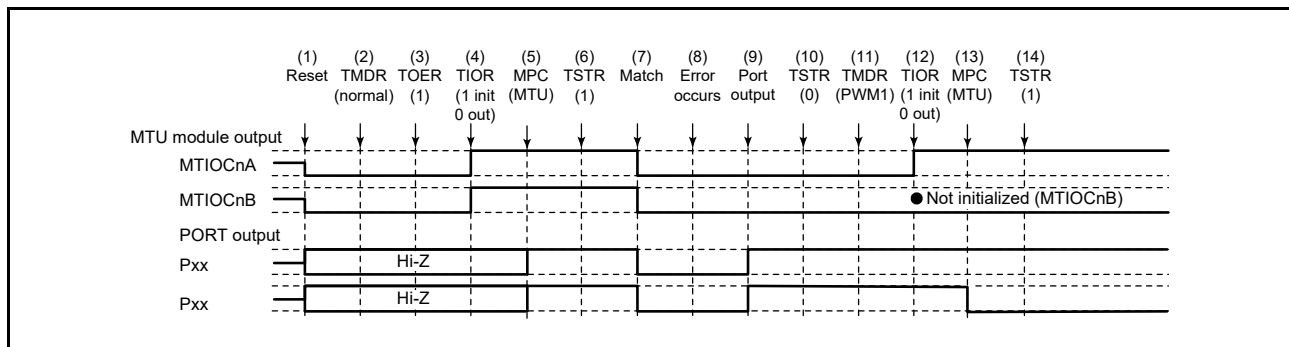

**Figure 24.154 Error Occurrence in Normal Mode, Recovery in Normal Mode**
Figure 24.154 shows a case in which an error occurs in normal mode and operation is restarted in normal mode after re-setting.
(1) to (10) are the same as in Figure 24.154.
(11) Set PWM mode 1.
(11) Set PWM mode 2.
(12) Initialize the pins with the TIOR register. (In PWM mode 2, a waveform is not output to the pin that corresponds to the TGR register used as a period register. To output a specified level, make necessary settings for general output ports in the port direction registers (PDR) and port output data registers (PODR) of the I/O ports.)
(11) Set the phase counting mode.
(12) Initialize the pins with the TIOR register.
(11) Initialize the normal mode waveform generation block with the TIOR register.
(12) Disable operation of the normal mode waveform generation block with the TIOR register.
(13) Disable output in MTU3 and MTU4 (MTU6 and MTU7) with the TOERA (TOERB) register.
(14) Select the complementary PWM output level and enable or disable cyclic output with registers TOCR1A and TOCR2A (TOCR1B and TOCR2B).
(15) Set complementary PWM mode.
(16) Enable output in MTU3 and MTU4 (MTU6 and MTU7) with the TOERA (TOERB) register.